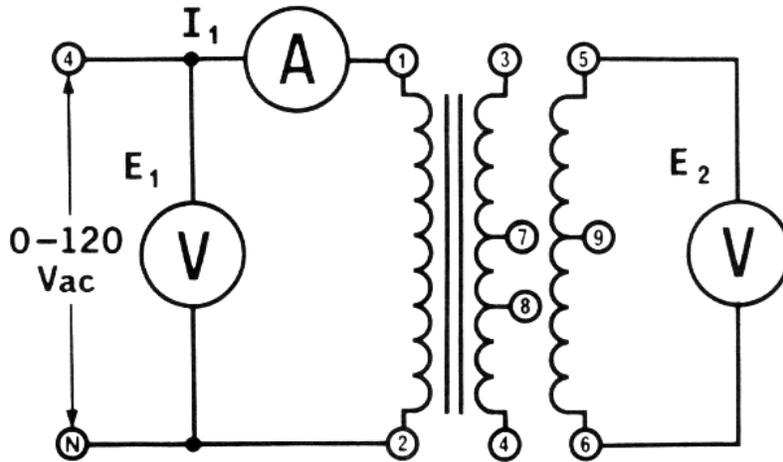

Figure 04-2
- 1) Construct the circuit shown in Figure 04-2: